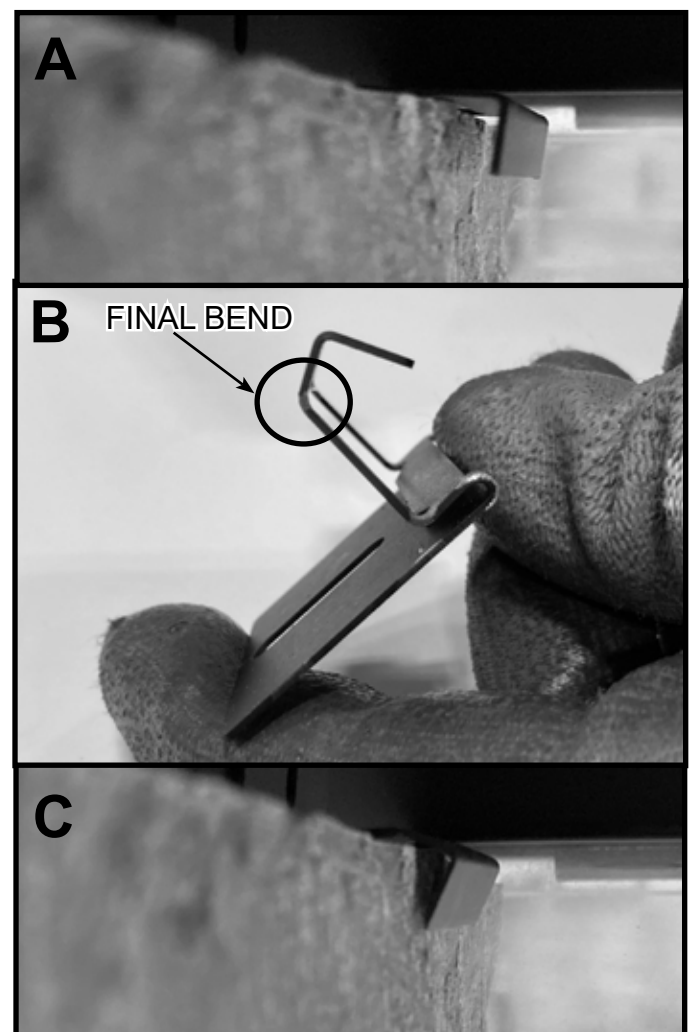

Figure 7 Final Bend on Refractory Bracket
6. The final bend of the refractory bracket is shown in Figure 7. The degree of this bend will vary depending on the thickness of the fiber in the area where the bracket is placed. Adjust the clip as needed.
2. Use a pliers to close the gap on the initial hand bend as shown in Figure 7.